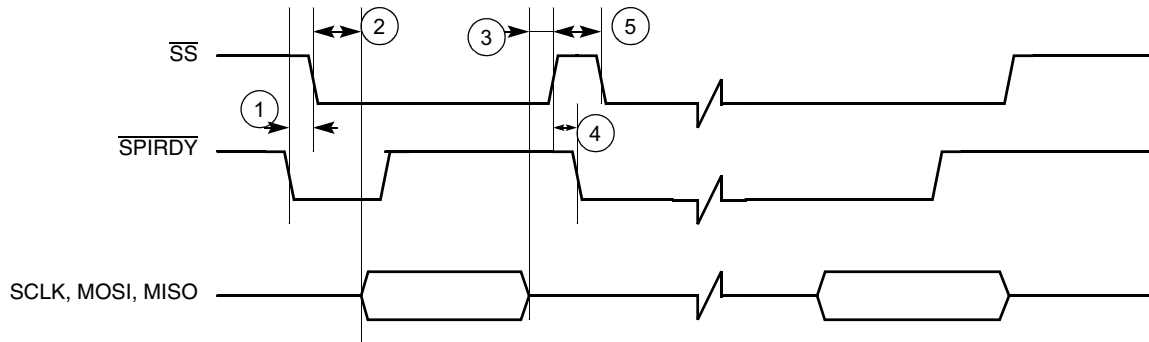
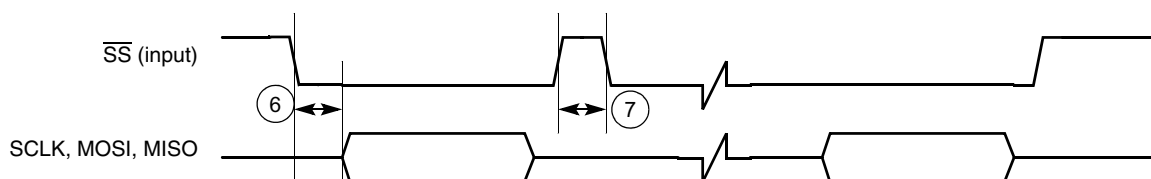

Figure 31. Master SPI Timing Diagram Using $\overline{SPI_RDY}$ Edge Trigger
Figure 35. Slave SPI Timing Diagram FIFO Advanced by \overline{SS} Rising Edge
To utilize the internal transmit (TX) and receive (RX) data FIFOs when the SPI 1 module is configured as a master, two control signals are used for data transfer rate control: the \overline{SS} signal (output) and the $\overline{SPI_RDY}$ signal (input). The SPI 1 Sample Period Control Register (PERIODREG1) and the SPI 2 Sample Period Control Register (PERIODREG2) can also be programmed to a fixed data transfer rate for either SPI 1 or SPI 2. When the SPI 1 module is configured as a slave, the user can configure the SPI 1 Control Register (CONTROLREG1) to match the external SPI master's timing. In this configuration, \overline{SS} becomes an input signal, and is used to latch data into or load data out to the internal data shift registers, as well as to increment the data FIFO. Figure 31 through Figure 35 show the timing relationship of the master SPI using different triggering mechanisms.
Table 15. Timing Parameter Table for Figure 31 through Figure 35